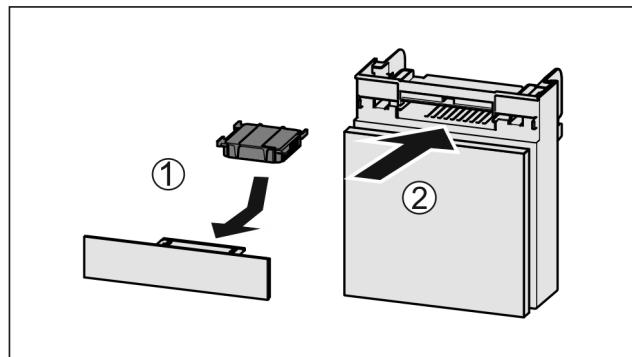

Fig. 32
- Insert the carbon filter as shown in the diagram Fig. 32 (1).
- Push the compartment in Fig. 32 (2).